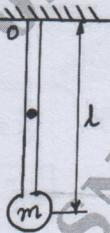

Fig. Q3 (a)
- 3 a. Determine the natural frequency of a simple pendulum as shown in Fig. Q3 (a), if the mass of the rod is not negligible by using Newton's method. (08 Marks)
- b. Using energy method find the natural frequency of the system shown in Fig. Q3 (b). The cord is inextensible in the spring mass pulley system and no slip.